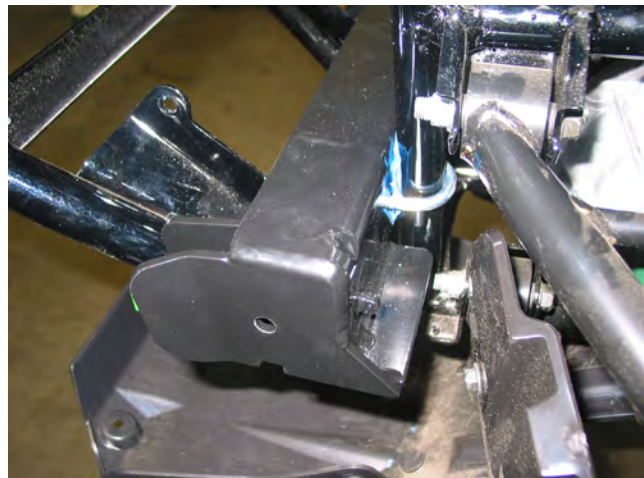

Figure 4
3. Use two 5/16 u-bolts to secure plow mount to vehicle frame tubes, as shown in Figure 4.